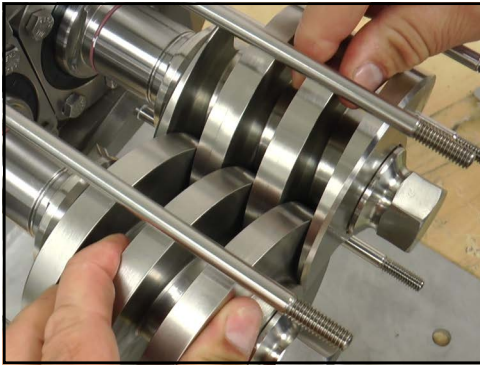

Figure 232 - Measure clearance
7. While holding the left screw in place, rotate the right screw clockwise until it contacts the other screw Figure 232.